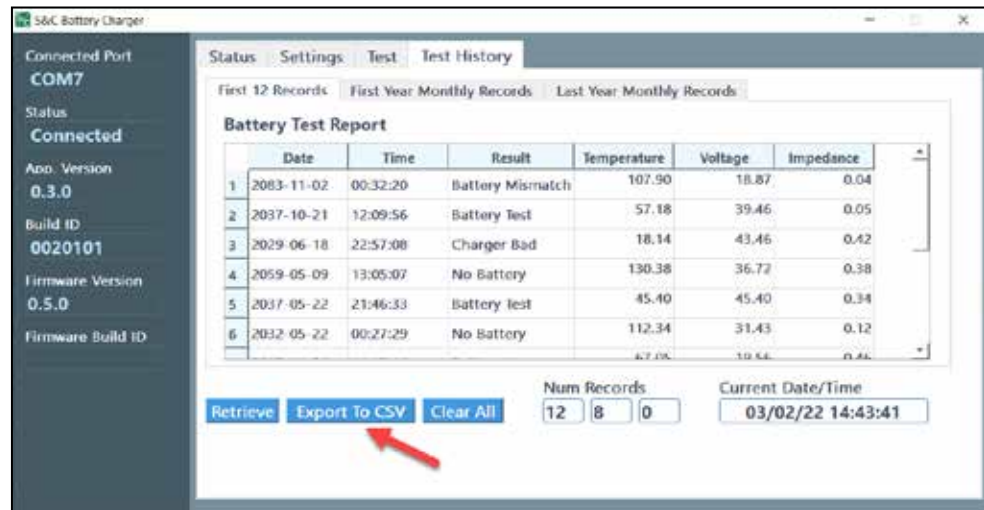
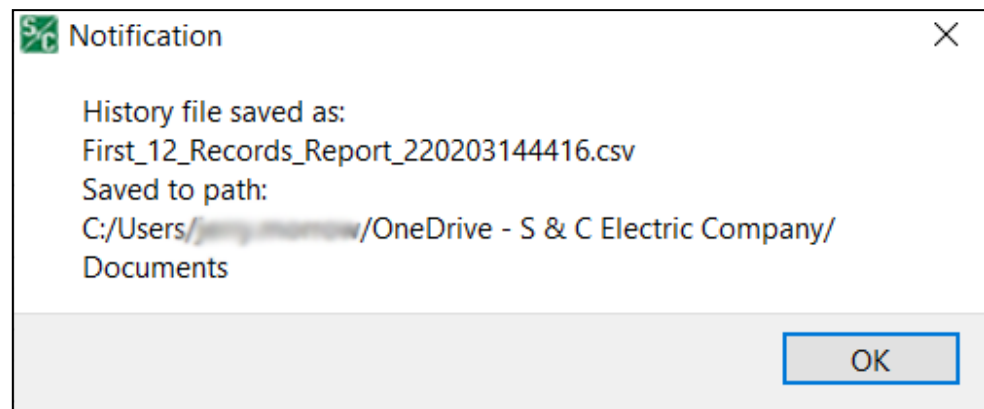

Figure 22. The Test History tab when exporting a CSV file.
Figure 23. The History File Saved As: dialog box.
- STEP 4.** Click on the **Export to CSV** button. See Figure 22. A dialog box will appear showing the save location. The default location is in the computer’s **Documents** folder. See Figure 23.